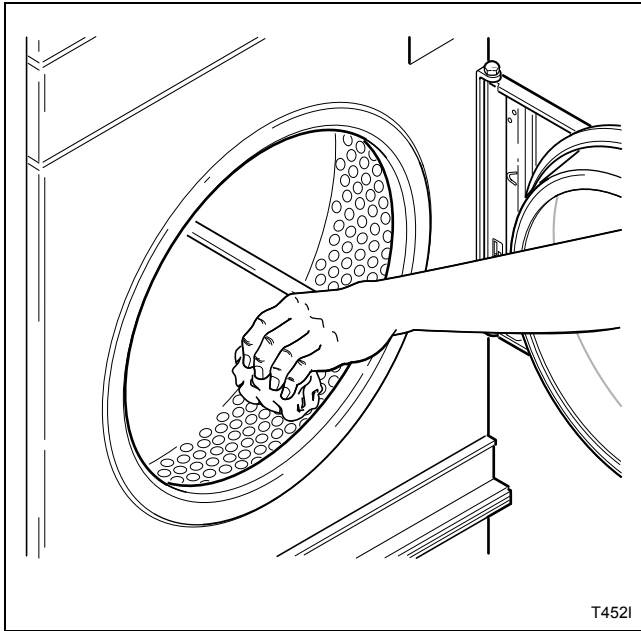

Figure 5
- Wipe out the cylinder using an all-purpose cleaner or detergent and water solution. Refer to *Figure 5*.